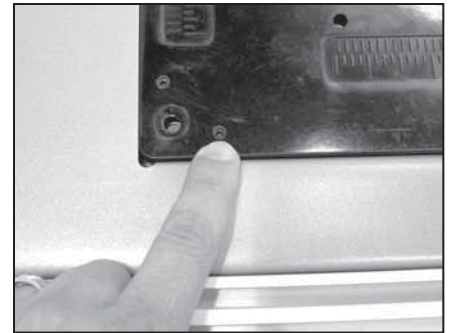

Figure 14
6. Using the small set screws found in each corner of the plate, level the plate to the main table. Place a straight edge on the main table, and adjust the set screws in or out until the plate is flush with the straight edge all the way around. See Figure 14.